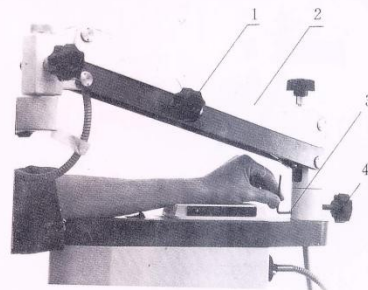

Fig.3
- (2) Assemble the support at one shrinking side of the table. Press the steps of gripping holder close to the side of the table before gripping. Switch on the leadscrew to press the spacer on the metal plate under the table. Lift up the lever at the angle of  $90^\circ$  for gripping.
- (3) Loosen the fixation screw (Fig.4-4). Turn the small arm (Fig.3-2) at an angle. Fasten it with a hexagon lever (Fig.3-3) so that the small arm will not rotate at full angle of  $360^\circ$  (refer to Fig.3).
- (6) Release the knob (Fig.3). Hold the handle to move the microscope upward or downward to adjust the focus till the image is clear to a great degree. Fasten the knob (Fig.3-1). Adjust the fine adjustment knob (Fig.12-2). Watch with one eye to make the image clear. Then adjust another eyepiece to be sure that the image getting with another eye is also clear. Then watch the image with two eyes simultaneously. Adjust the pupil distance knob (Fig.12-4) to be sure that the image both eyes get meet together and stereoscopic feeling can be got.